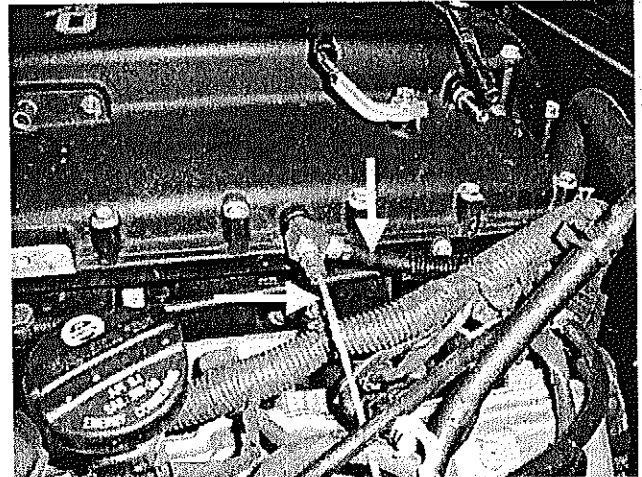

Figure 9
15. Remove the TRD VSV hose and, if equipped, the boost gauge line (Figure 9).